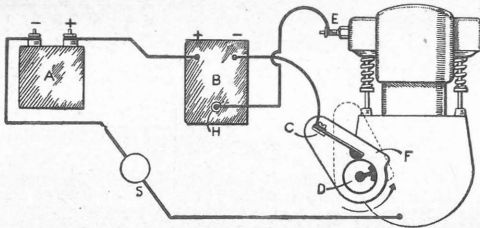

Fig. 6.—Accumulator and coil with all connections to engine.
Fig. 6 will make all clear. A is the accumulator, B the induction coil. The coil has three terminals, one usually marked P being for connection to the "+" or positive battery terminal. Another coil terminal marked M is connected to the insulated spring (C) of the commutator on the engine (shown on a much enlarged scale). Now instead of